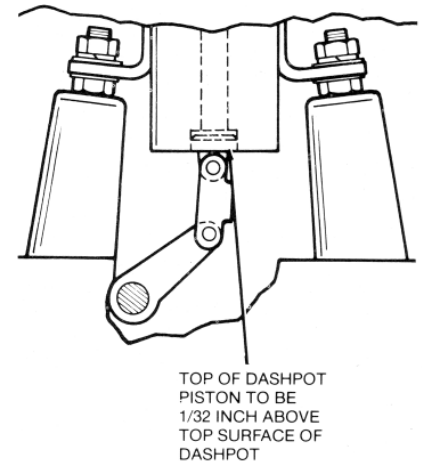

Figure 19.
- E. With the switch mechanism in the open position, the top edge of the dashpot piston on the contact rod should be approximately 1/32 inch above the top surface of the dashpot. (See Figure 19.) Adjust the nuts on the bushing rods to move the contact housing up or down as required.
- A. With the switch mechanism in the open position, the top of the dashpot piston on the contact rod should be 1/32 inch above the top surface of the dashpot. (See Figure 19.) Adjust the nuts on the bushing rod to move the contact housing up or down as required.